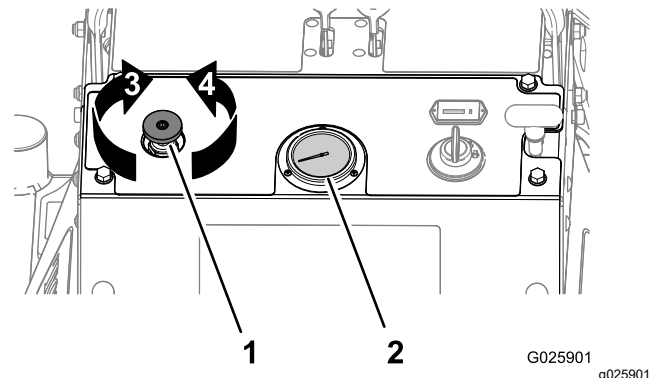

Figure 17
**Note:** First time use: set the tine pressure control so that the tine-pressure gauge (Figure 17) indicates 24 bar (350 psi).
- Rotate the tine-pressure control **counterclockwise** (Figure 17) to decrease the downward pressure in order to remove a **shorter** plug.
- Rotate the tine-pressure control **clockwise** (Figure 17) to increase downward pressure in order to remove a **longer** plug.